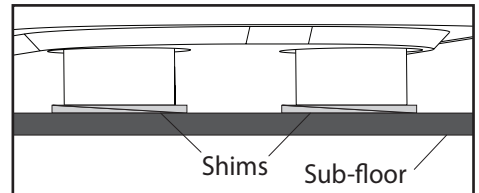

FIGURE 4. Shim feet if needed using construction adhesive to attach shims to bathtub feet and subfloor.
- Use shims to level bathtub if needed (Fig 4).
- If needed, level bathtub with shims into construction adhesive under feet (Fig 4).